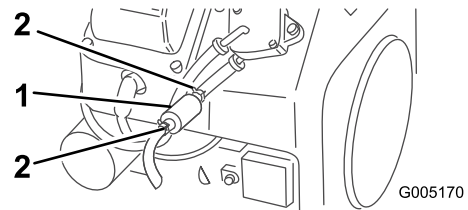

Figure 31
4. Squeeze the ends of the hose clamps together and slide them away from the filter (Figure 31).
5. Place a drain pan under the fuel lines to catch any leaks, then remove the filter from the fuel lines (Figure 31).